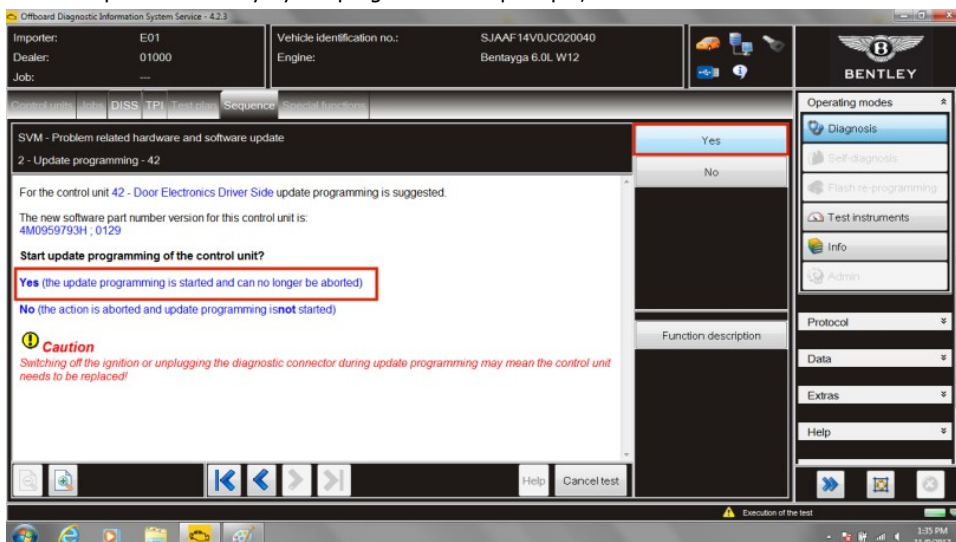

Figure 4
- As each control unit is presented select Yes to deliver software. Follow screen prompts for each control unit (see Figure 4)